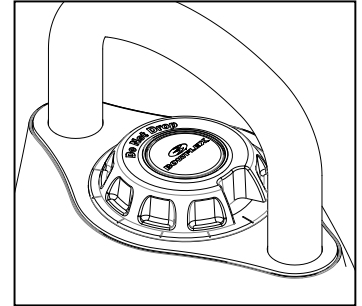

Figure 1
3. The weight increments range from 8 to 40 lbs (3.5kg to 18kg) on the weight selection dial. To properly select a given weight (20 lbs [9kg] for example), rotate the adjustment knob until the Weight Selection Window is aligned with that number (20) on the weight selection dial.
4. After confirming the proper rotational function of the adjustment knob, turn the adjustment knob so that the number 8 (3.5) shows in the center of the Weight Selection Window (Fig.1).